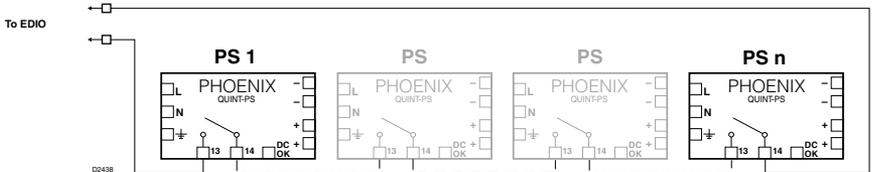

Figure 3-20—Power Supply and Converter Relays Wired in Series for Trouble Monitoring (up to 16 Power Supplies/Converters)
3. To ensure compliance with NFPA 72, primary and secondary power supplies shall be monitored for the presence of voltage at the point of connection to the system. Connect the power supply unit for preferred preventive function monitoring. Refer to Figure 3-20 for an example of power supply relays wired in series for power monitoring.